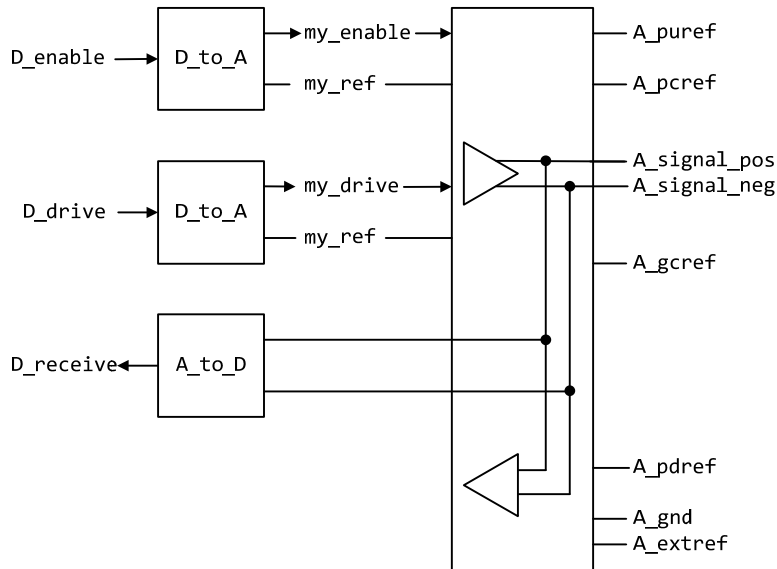

Figure 28 - Example SPICE, Verilog-A(MS) or VHDL-A(MS) Implementation of a True Differential Buffer
The D_to_A or A_to_D adapters used for SPICE, Verilog-A(MS) or VHDL-A(MS) files may be set up to control or respond to true differential ports. An example is shown in Figure 28.